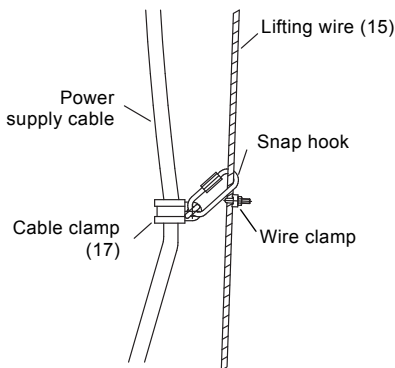

Fig. 22 Attaching the cable to the wire
18. Fix the power supply cable to the lifting wire by means of a cable clamp approx. 0.8 m above the flowmaker. This will prevent the cable from falling down and becoming entangled in the propeller during operation. Connect the cable clamp to the lifting wire above the wire clamp by means of a snap hook. See fig. 22. Attach the power supply cable to the lifting wire by means of cable clamps placed at 1 m intervals.
23. Remove the lifting wire from the winch and fit it to the wire clamp (20) on the top fixation bracket.
24. Use the lifting wire as a relief for the power supply cable. For this reason, always tighten the lifting wire. See fig. 22.